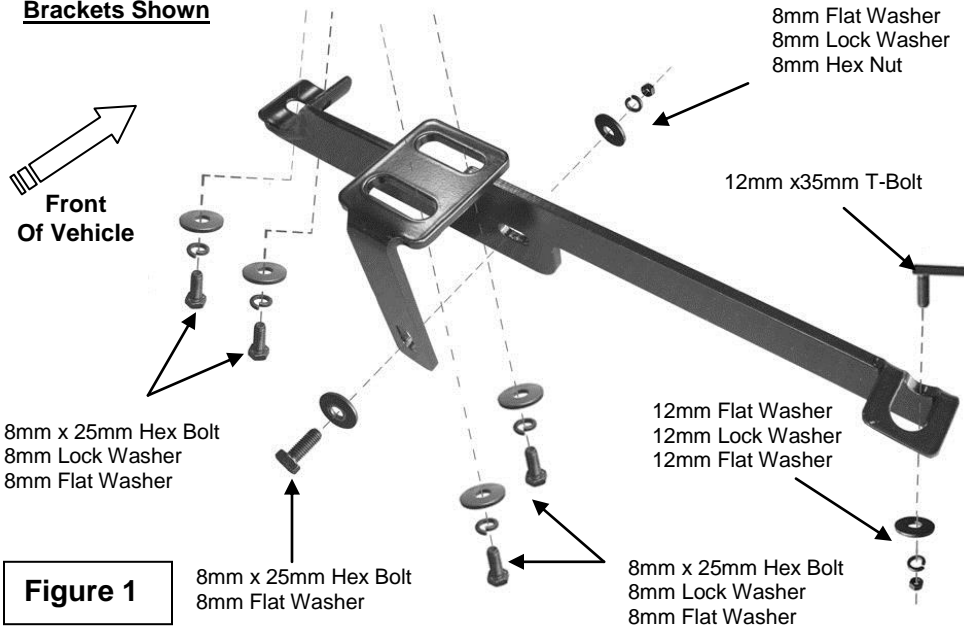

Figure 1
- From underside of vehicle, locate the factory hole in the front driver side frame rail and insert (1) 12mm x 35mm T-Bolt. **NOTE:** This should line up to two factory threaded holes in the floor panel. Loosely attach the driver side front Mounting Bracket to already inserted T-Bolt using the included (1) 12mm Lock Washer, (1) 12mm Hex Nut, and (1) 12mm Flat Washer (**Figure 1 & 3**).
- Locate the two front factory threaded holes in the driver side floor panel. **NOTE:** These should line up with the previously installed front Mounting Bracket. Loosely attach one of the Auxiliary Mounting Brackets from the rear side of the front Mounting Bracket and with the 90° bend towards the front of the vehicle using the included (2) 8mm x 35mm Hex Bolts, (2) 8mm Lock Washers, and (2) 8mm Flat Washers (**Figure 1 & 3**).
- Attach front Mounting Bracket to Auxiliary Bracket using the included (1) 8mm x 25mm Hex Head Bolt, (1) 8mm Lock Washer, (1) 8mm Hex Nut, and (2) 8mm Flat Washers. Do not tighten at this time (**Figure 1 & 3**).